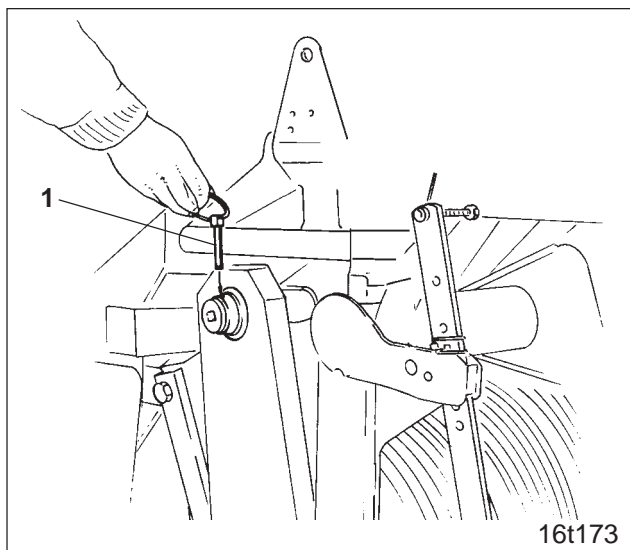

Fig. 10.8
In order to conduct a stationary calibration test with the pack top seed drill, the clip (Fig. 10.8/1) has to be pulled off the intermediate drive of the tyre packer roller.
- Insert clip pin (Fig. 10.8/1) into the intermediate drive of the Tyre Packer Roller.